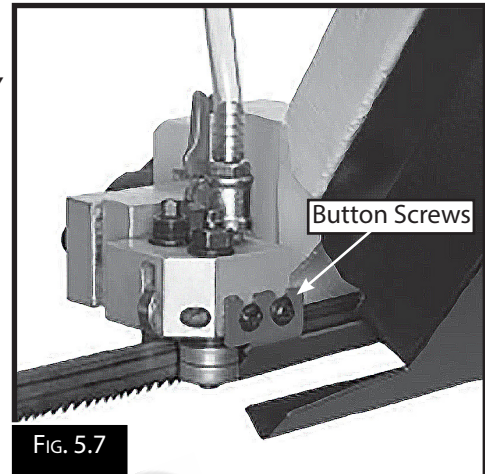

FIG. 5.7
3. Raise and lock the bow saw for easy access. Slide the blade guides as close as possible together and lock in place. Remove the blade guards by loosening the button head screws. (Fig.5.7)